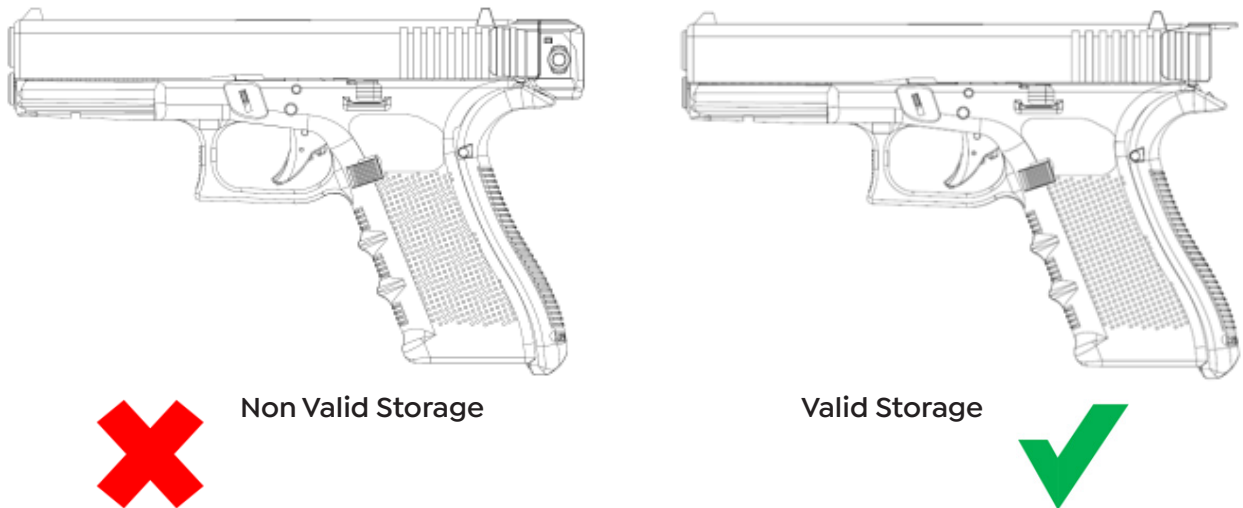

Figure 113: Valid and Non Valid storage options.
- Store the pistol with the RISC Display removed from the Slide (Figure 113).